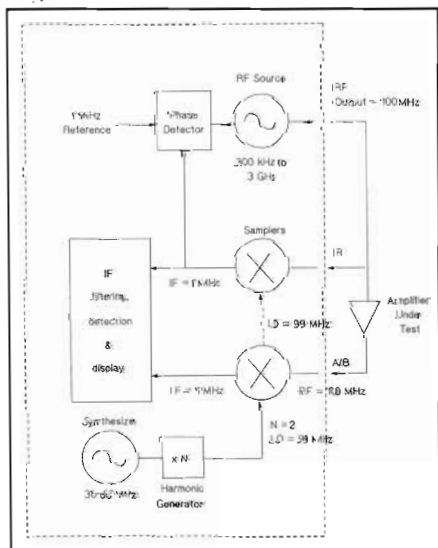

Figure 1a. Functional diagram for linear measurements.
Figure 1a contains a block diagram which illustrates how the HP 8753B is normally configured to make linear measurements. The RF source stimulates the amplifier under test (100 MHz in this example). The incident and test signals are received and mixed down to a low frequency IF (1 MHz). The 1 MHz IF signal is filtered to remove unwanted signals and then measured. The 1 MHz IF signal in the Reference (R) channel also goes to one input of a phase detector. The other input is fed by a stable 1 MHz frequency reference. The phase detector produces an output voltage which is proportional to the phase difference between the two input signals. This voltage is used to fine